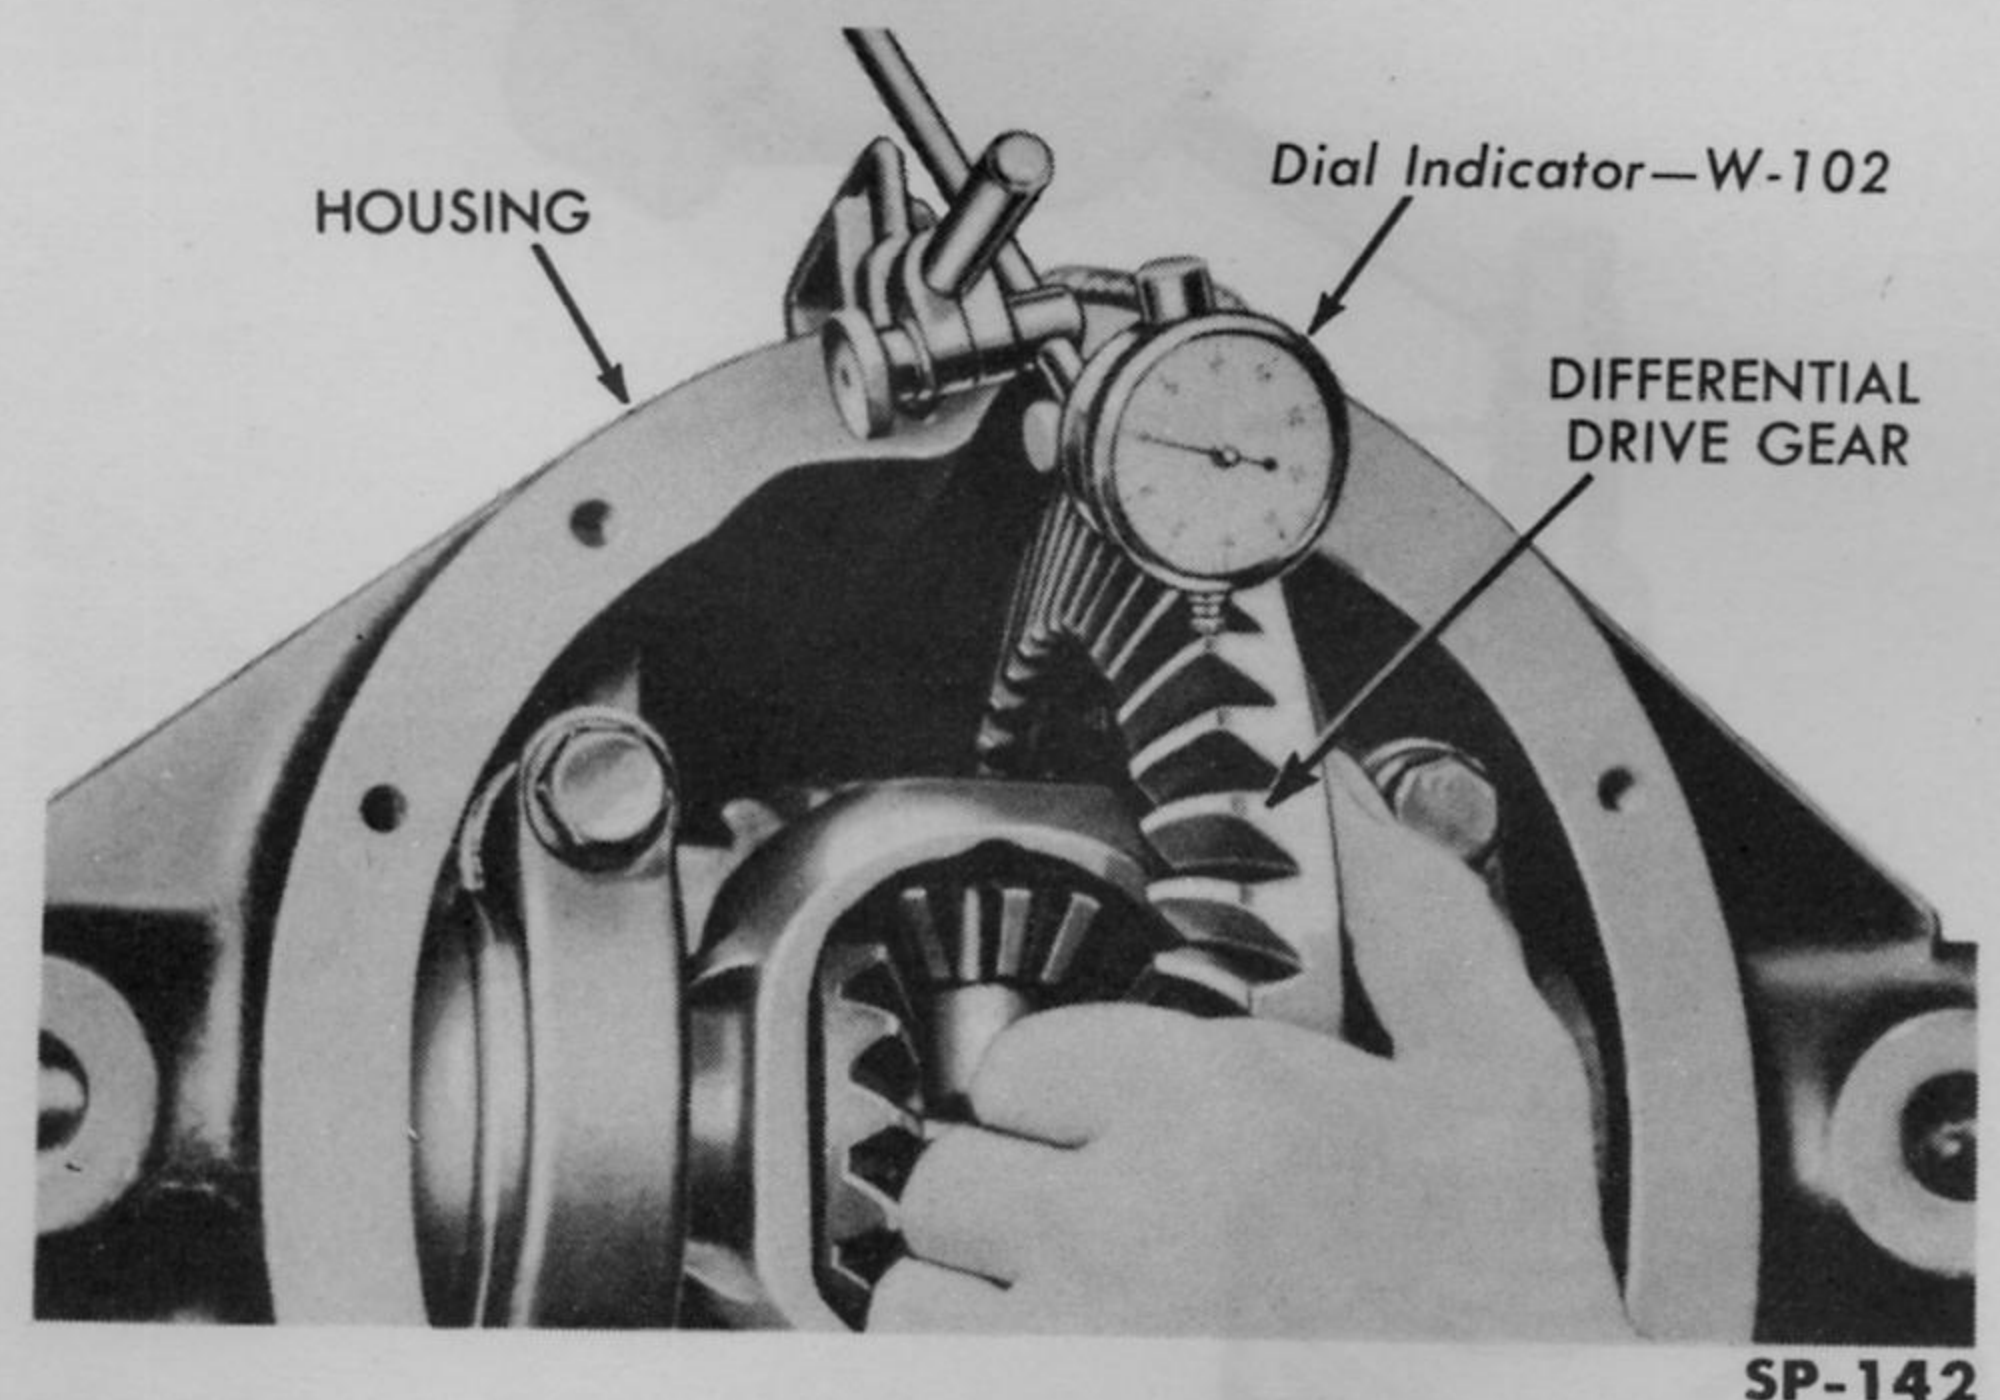

Fig. 275—Checking Differential Backlash
5. Check the backlash between the drive gear and pinion with a Dial Indicator W-102 (part of Gauge Set W-99) mounted on the housing cover face so that the dial indicator contact button rests on a tooth of the drive gear (Fig. 275). Hold the pinion firmly at the companion flange and move the drive gear back and forth. The amount of free motion indicated on the dial indicator represents the amount of backlash.